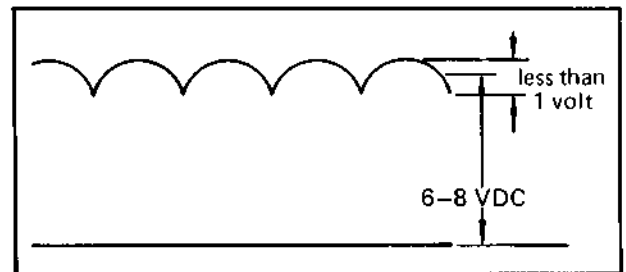

Fig. 6-5 AC ripple of drum motor input
4. Set the unit to Play mode. Then press the PAUSE key and verify the AC ripple of TP-17 as shown in Fig. 6-5. If the AC ripple is more than 1 volts peak-to-peak on TP-17, the capstan motor will have to be replaced.